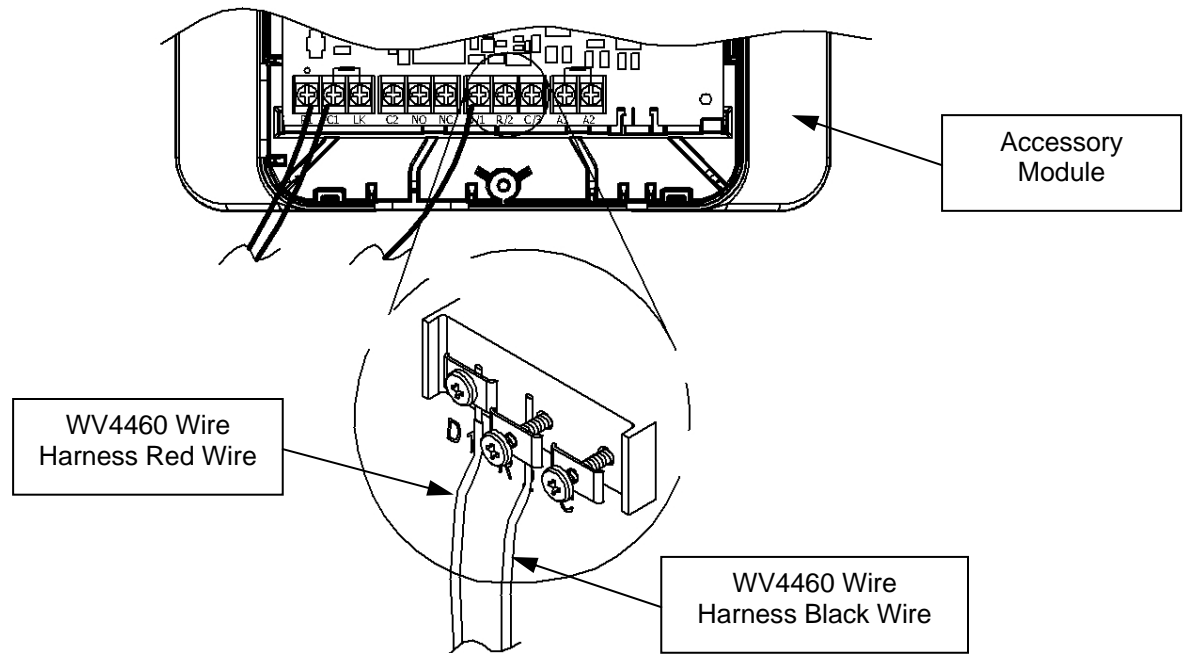

Figure 21
Step 21: Insert the black wire, from the WV4460 wire harness, under the screw labeled "R/2." This is shown in Figure 21.